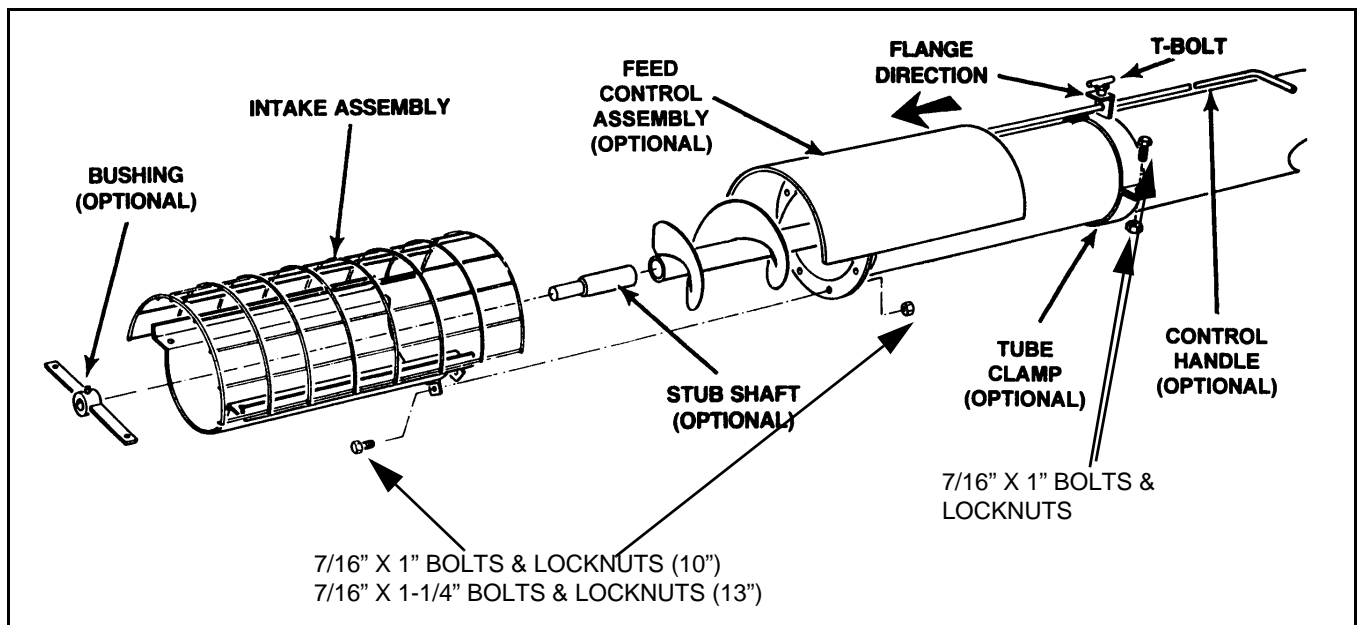

Figure 3.3 Intake/Optional Feed Control
1. Attach intake to lower end of auger tube with four 7/16" x 1" (7/16" x 1-1/4" for 13" auger) bolts and locknuts (**except the 6" auger** which requires three bolts and locknuts) (Figure 3.3).
- a. Attach the feed control tube clamp (Figure 3.3) to auger tube with two 7/16" x 1" bolts and locknuts. Do not tighten at this time.
In order to provide additional support for the lower flighting, an optional support bushing package is available. See Figure 3.3. To install: